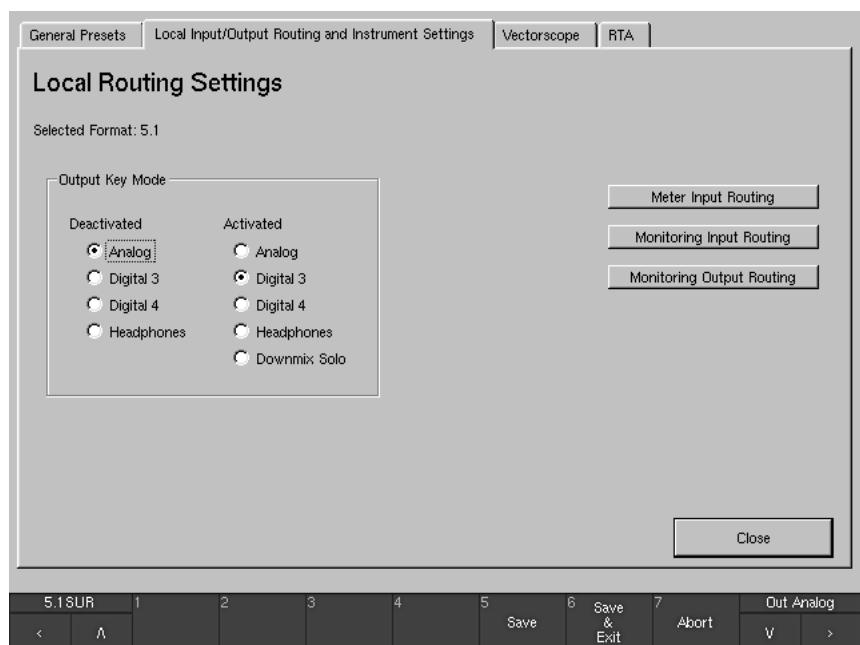

Fig. 3-11: The Local Routing Settings menu
See Fig. 3-11
9. Use the **Close** button to store the settings and to get back to the **Local Routing Settings** menu page (see Fig. 3-11).